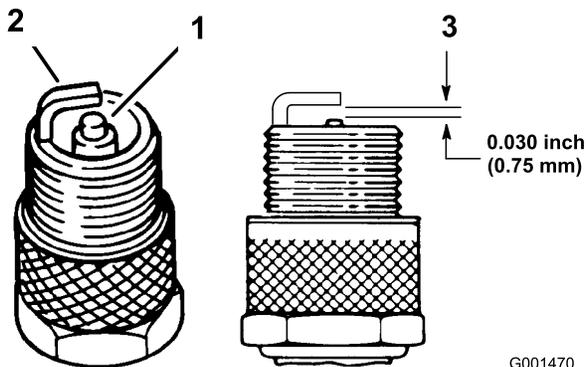

Figure 29
- Look at the center of the spark plugs (Figure 29). If you see light brown or gray on the insulator, the engine is operating properly. A black coating on the insulator usually means that the air cleaner is dirty.
- Check the gap between the center and side electrodes (Figure 29). Bend the side electrode (Figure 29) if the gap is not correct.
- Connect the wires to the spark plugs (Figure 29).